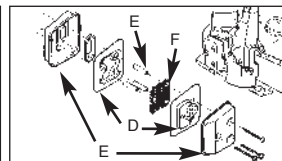

Fig. 17B
2. Remove the chain brake cover. Remove the 3 screws that hold the muffler to the cylinder. The muffler will lift off after retaining screws are removed (Fig. 17B).
3. Separate muffler halves (C). Remove the metal baffles (D) and spacer tubes (E).
4. Discard the used spark arrester screen and replace it with a new one (F) (Fig. 17B).